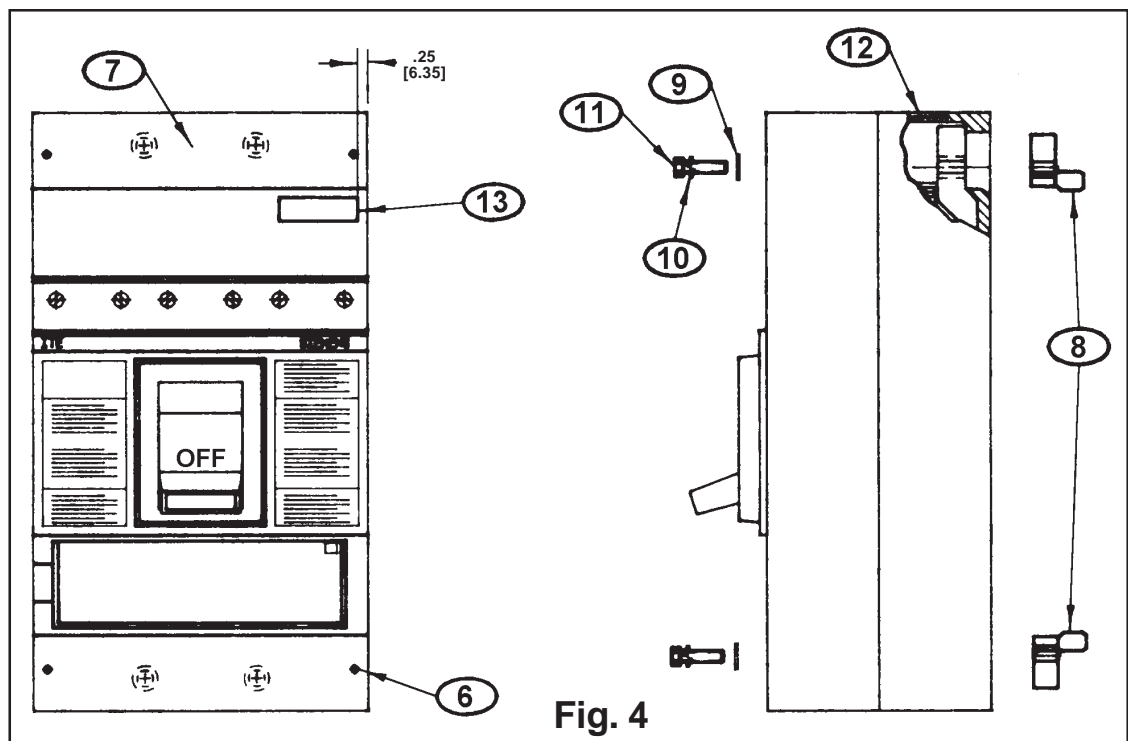

Fig. 4
- Loosen four breaker terminal shields screws (6) and remove both line and load side terminal shields (7).
- Place terminal stabs (8) on back of breaker in recess provided in base molding. Secure in place with 5/16-18 hex head bolts (11) furnished. Tighten these bolts to 96 In.-Lbs. (8 Ft.-Lbs.) [10.84 N/m] to assure a good electrical connection. Repeat this procedure for the remaining tulip clip assemblies.
- INSERT END SHIELDS (12) INTO SLOTS PROVIDED AT LINE AND LOAD END OF BREAKER.**
- Affix label (13) to front of circuit breaker as shown in Fig. 4.